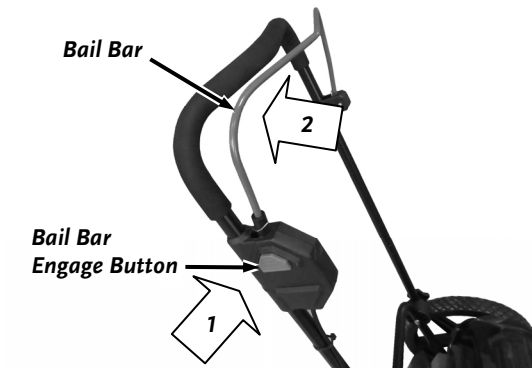

Figure 7
1. Hold the Bail Bar Engage Button down with one hand as you pull the Bail Bar to the Handlebar with the other hand (**Figure 7**).